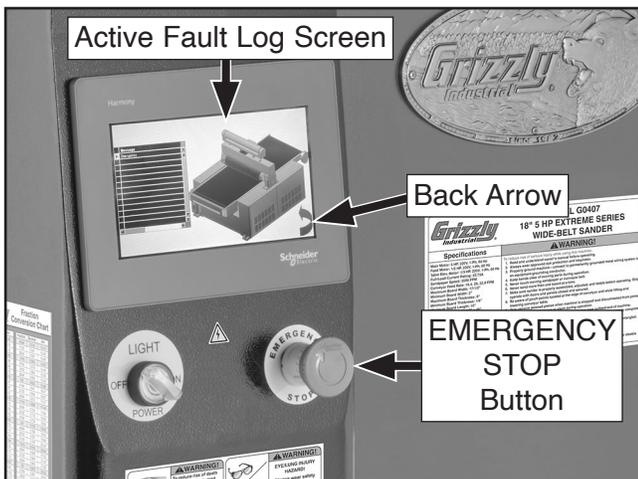

Figure 32. Active fault log screen and location of EMERGENCY STOP button.
3. Press EMERGENCY STOP button in. Touchscreen will show active fault log screen (see **Figure 32**) to indicate that EMERGENCY STOP safety feature or limit switch is preventing machine operation.
6. Press back arrow shown in **Figure 32** to return to main menu screen.